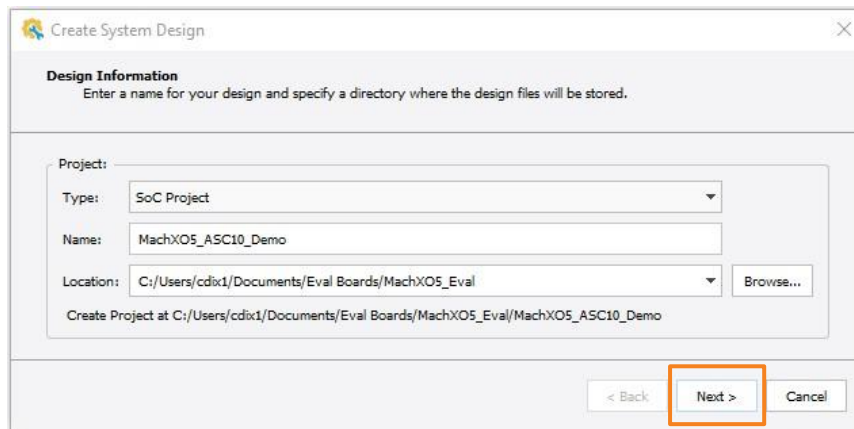

Figure 3.1. Propel Builder – Project Name
1. From the Propel Builder menu, click **File->New Design** the **Design Information** window will appear, as shown in Figure 3.1. Select the project type and fill in the name and path then click **Next**.